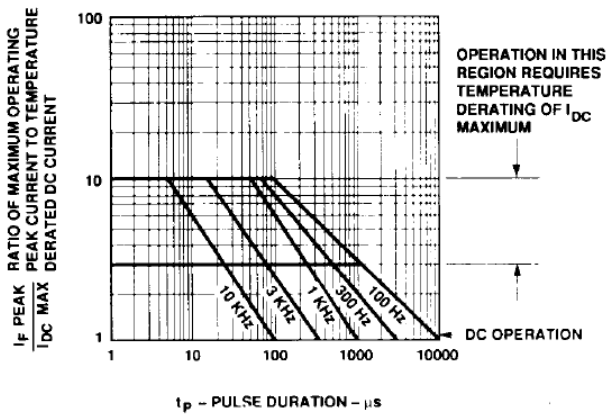

Figure 7. Maximum Tolerable Peak Current vs. Pulse Duration – HER
- See Figure 7 to establish pulsed conditions.